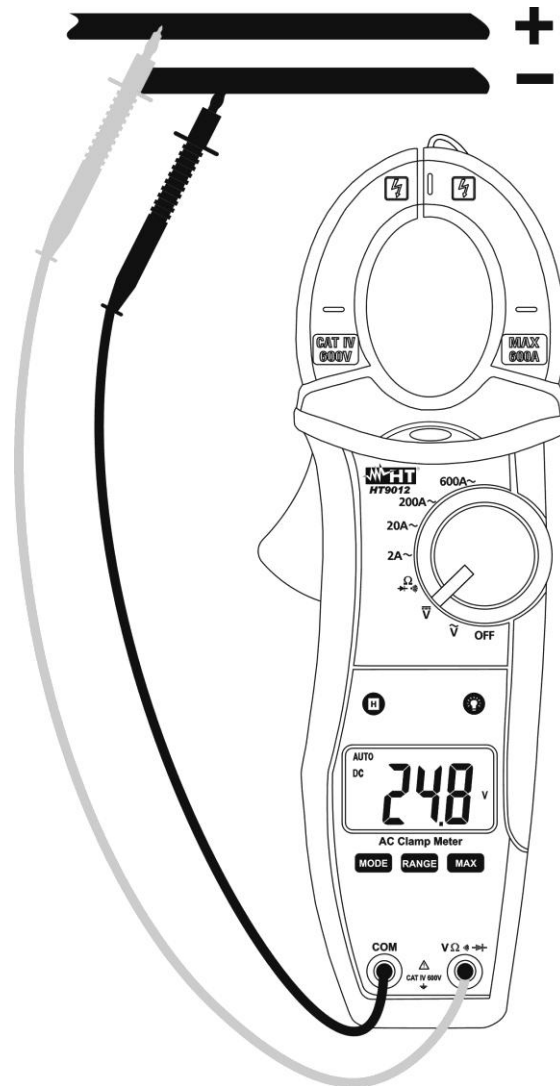

Fig. 3: Taking DC voltage measurement
4. Connect the two long ends of test leads to the desired circuit (see Fig. 3) then reading will be displayed
6. The "-" symbol at display means that the voltage have an opposite sign respect the connection of Fig. 3)